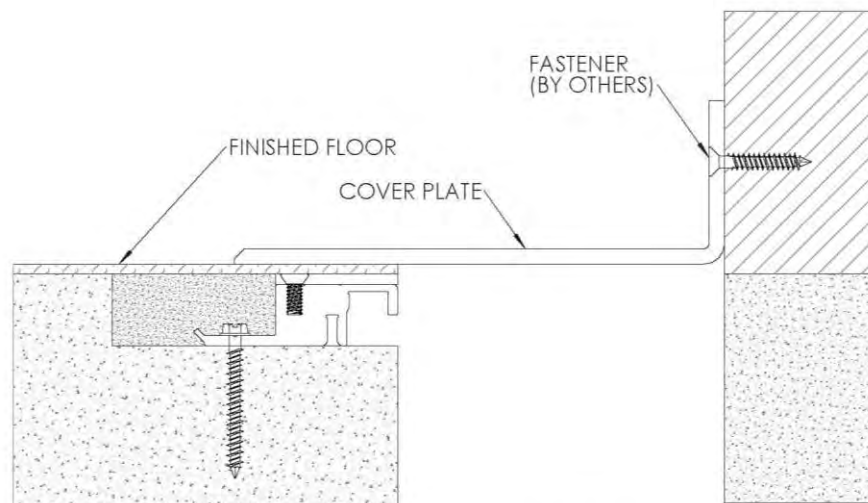

FIGURE 4
4. Position the cover plate against the wall as shown, making sure the top of its horizontal face is level with the finished floor. Attach the plate to the wall using appropriate fasteners (by others) for the wall type, spaced 18" o.c. **See Figure 4**